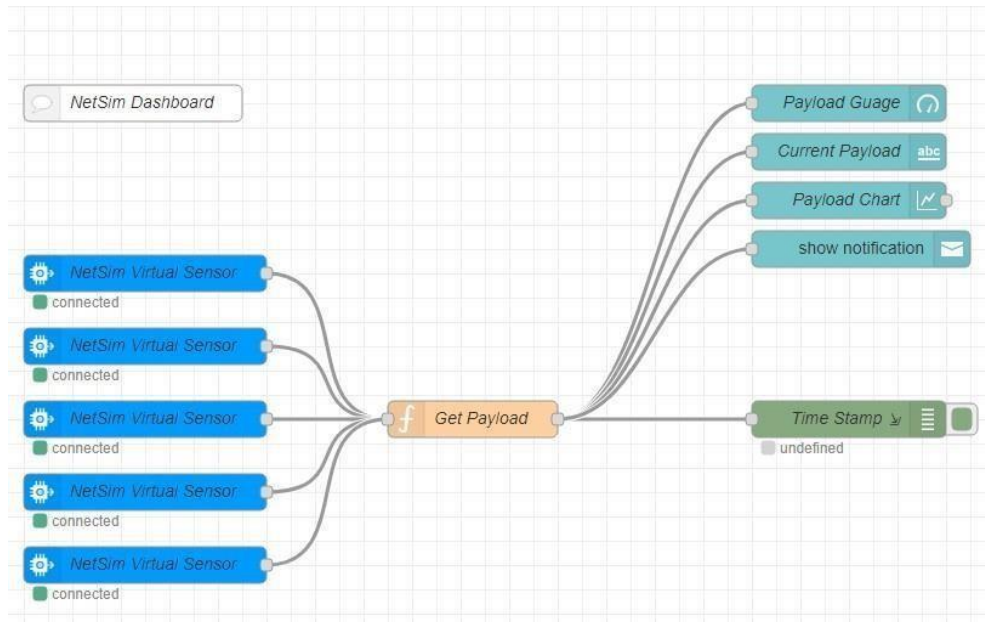

Figure 1.9
- Design the flow graph as shown in Figure 1.9
d. Configure NetSim Virtual Sensor Node as shown in Fig:1.9